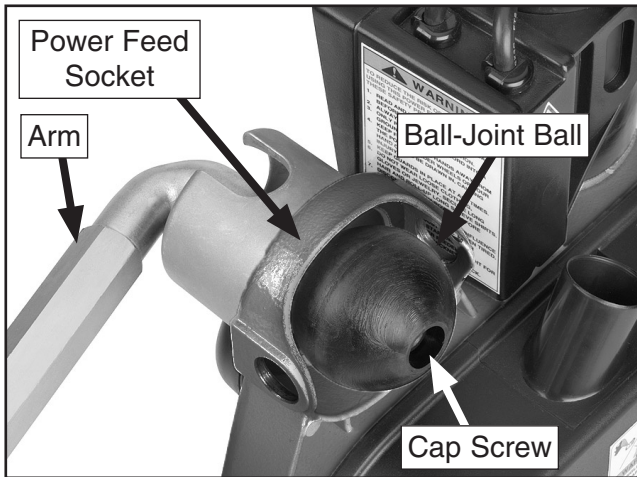

Figure 7. Arm, ball joint and socket assembly.
3. Insert the arm into the ball-joint ball and secure both together with the M10-1.5 x 25mm cap screw shown in **Figure 7**.
4. Insert the ball joint assembly into the power feed socket shown in **Figure 7**.
5. Insert the ball-joint socket into the power feed socket as shown in **Figure 7**, so it rests against the ball-joint ball.